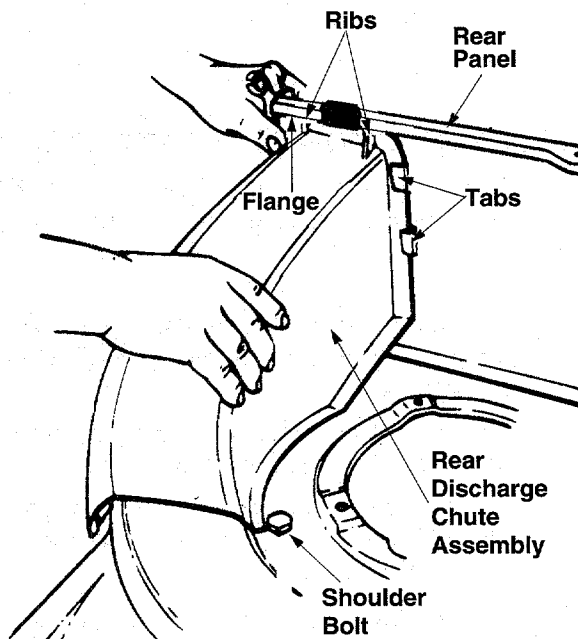

Figure 9
- Slide the ribs on the discharge chute assembly under the flange on rear panel as you insert the side of the discharge chute under the two tabs. See Figure 9.